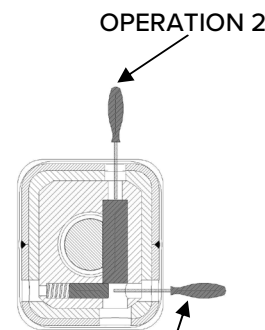

Figure 16
2. Press the retainer pin with a screwdriver so that the prominent part returns into its seat [Figure 16, Operation 1].